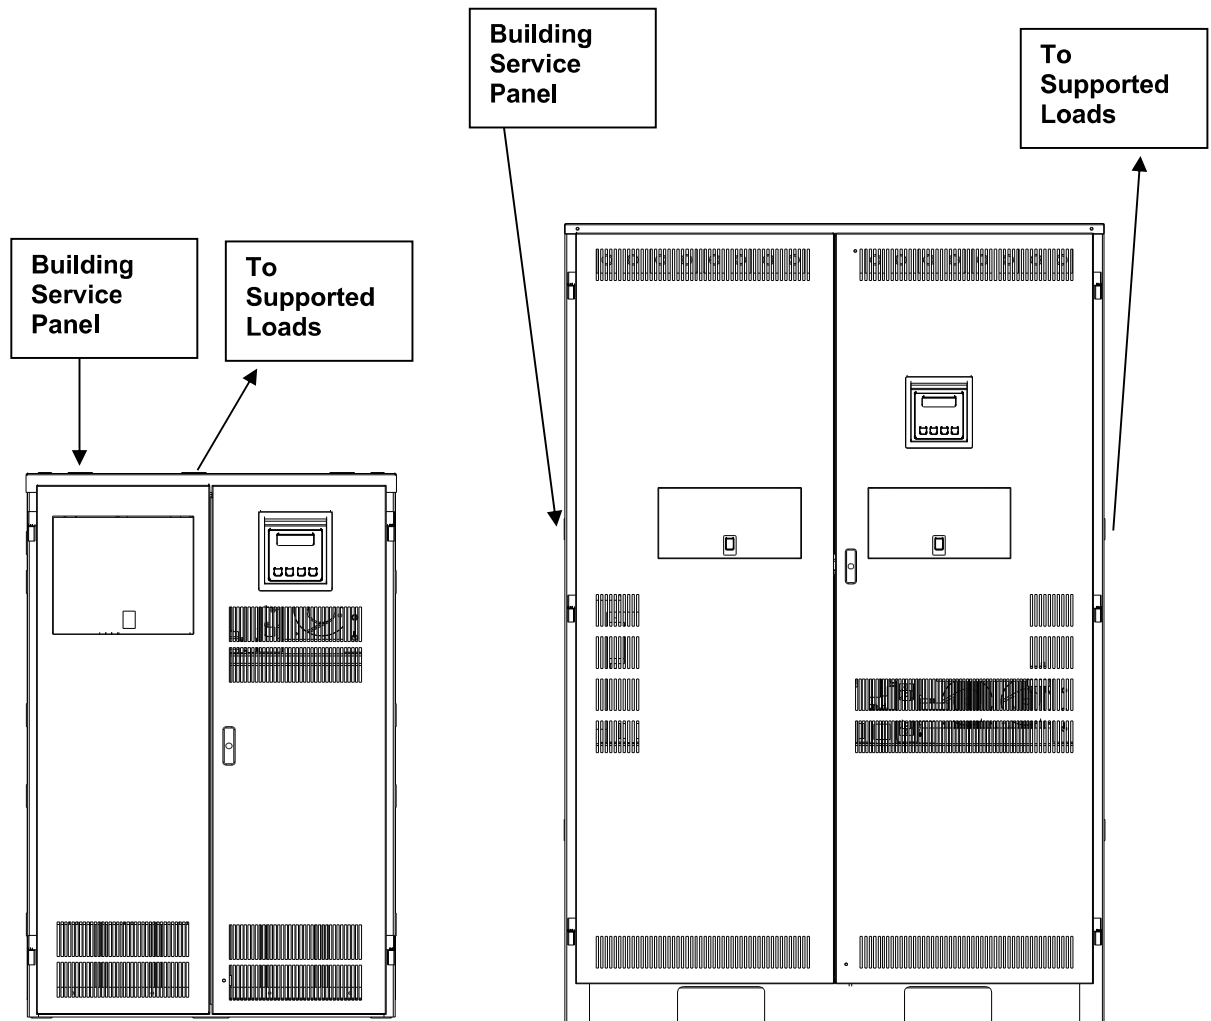

Figure 4.1 Typical Hardwired Installation
Figure 4.1 shows typical installations of system. Standard 1.5 kW, 2.25 kW, 3.0 kW, 3.75 kW, 5.0 kW, 6.0 kW, 8.0 kW, 10.0 kW, 12.5 kW, and 16.7 kW models **do not** have external battery cabinets.
9. Remove knockouts for AC Input and AC Output in the top or left and right side of the system (See figure 4.1). AC input conductors and AC output conductors must be installed in separate conduits, and emergency and non-emergency output circuits must be installed in separate conduits.